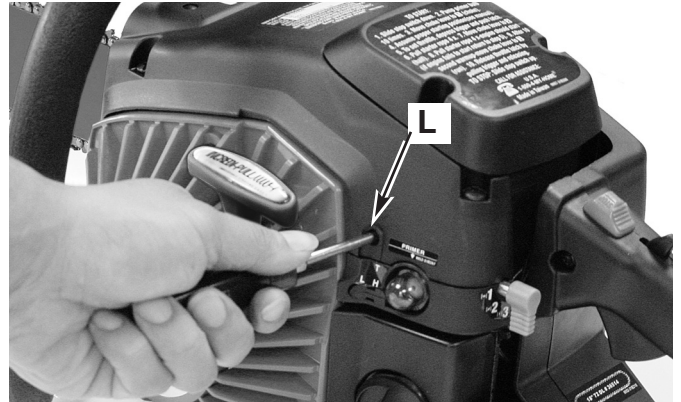
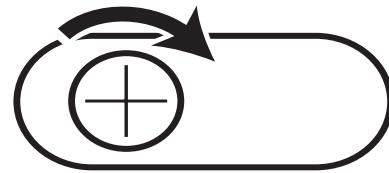

Fig. 8
Fig. 9
6. Then move the **red choke lever** (H) to Position 2, being sure to keep the throttle trigger locked. Hold saw firmly and pull rope until saw starts. This could take 4 more pulls.
7. Let the saw warm up for 10 seconds. Depress and release throttle trigger (D) for idle.
8. Move **red choke lever** (H) to Position 3. If engine fails to start, repeat these instructions. If engine does start, begin chain brake test described on next page.
9. If unit idles roughly, there is an idle adjustment access hole (L)(Fig. 8). Using a Phillips or slotted screwdriver, turn screw 1/4 to 1/2 turn clockwise (to the right). Unit should then idle properly (Fig. 9).